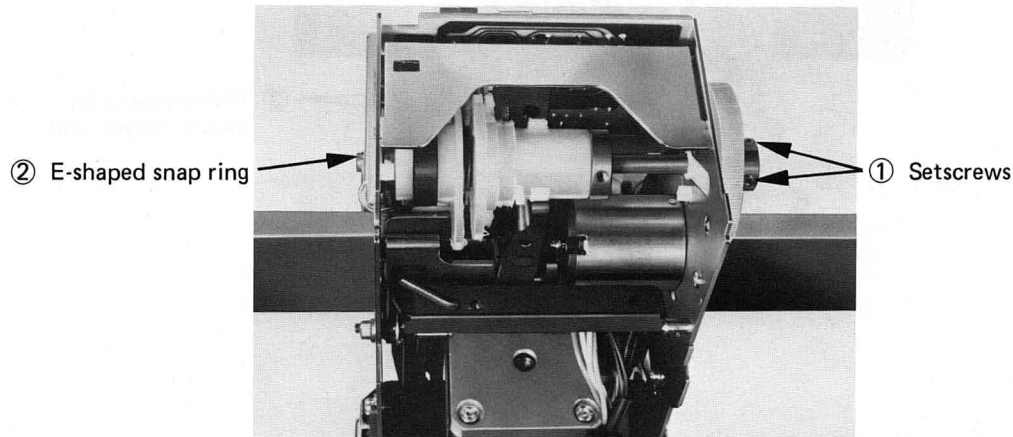

Fig. 5.18
- Step 2. Loosen two setscrews ① of the clutch gear to release the clutch gear and bearing. (Fig. 5.18)
- Step 3. Remove E-shaped snap ring ② and then remove the right bearing. (Fig. 5.18)